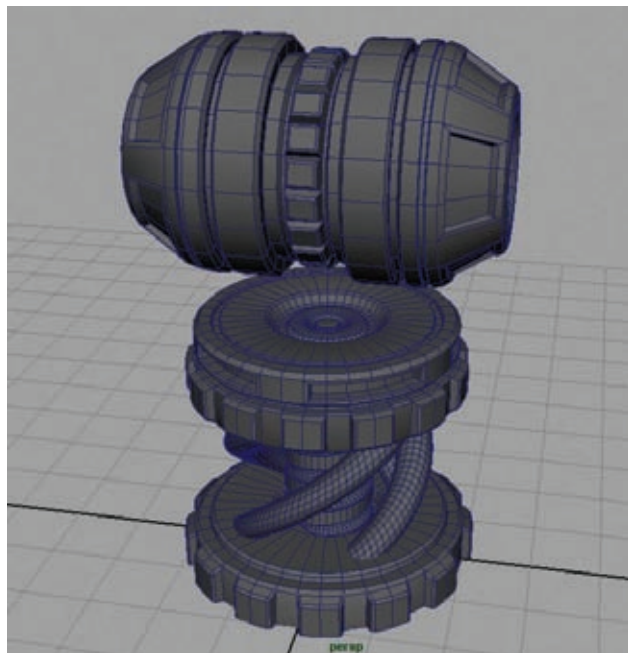

Figure 8.15
16. On top of the pedestal, you can add some lens-like shapes to give the implied hover technology a bit more believability. I did this simply by adding a few more extruded shapes in the middle, like you see in Figure 8.15.